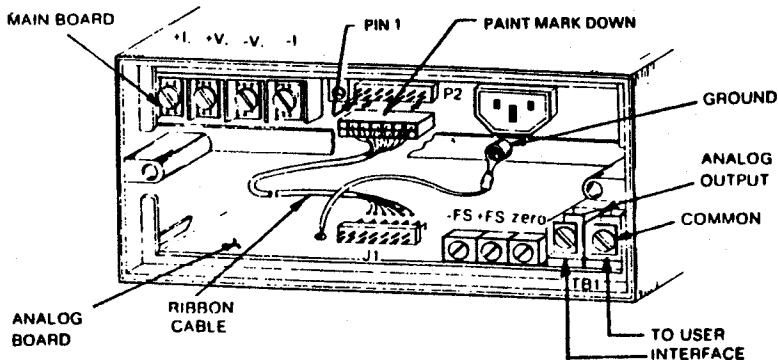

**FIGURE 2-7. INSTALLING OPTION BOARD ON DISPLAY BOARD**
g. Attach PCB option board to display board with two screws and lockwashers included in kit as shown in Figure 2-7.